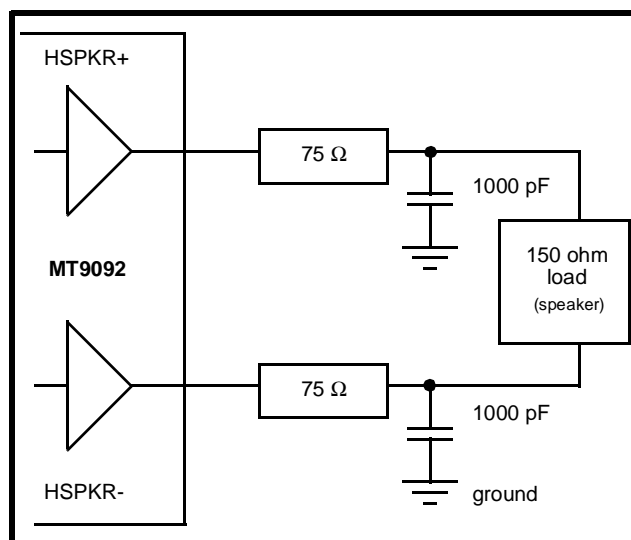

Figure 5- Handset Speaker Driver
- ◆ The handset speaker outputs (receiver), pins HSPKR+/HSPKR-. This internally compensated, fully differential output driver is capable of driving the load shown in Figure 5. This output is enabled/disabled by the HSSPKR EN bit residing in the Transducer Control Register (address 0Eh). The nominal handset receive path gain may be adjusted to either -12.3dB (suggested for μ -Law) or -9.7dB (suggested for A-Law). Control of this gain is provided by the RxA/u control bit (General Control Register, address 0Fh). This gain adjustment is in addition to the programmable gain provided by the receive filter and DSP.